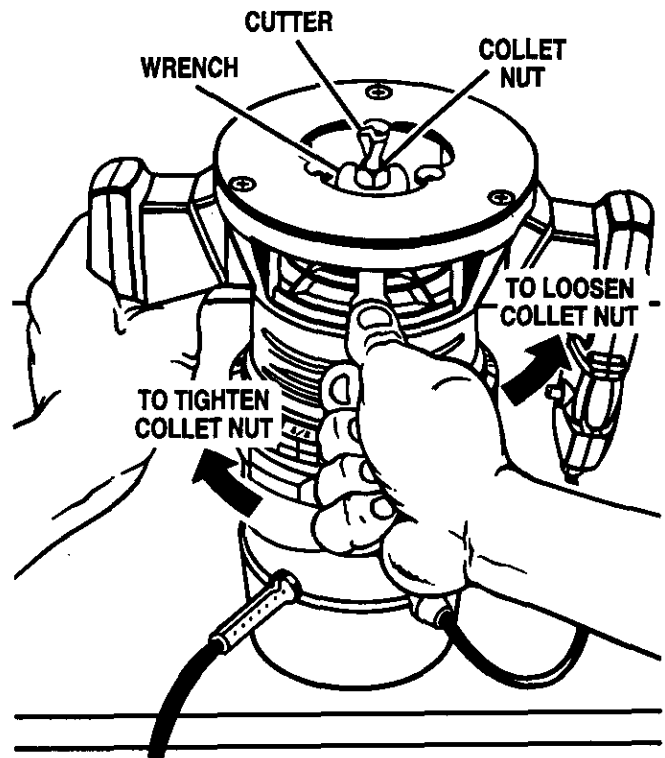

Fig. 3
■ Place your router upside down on table, then turn collet nut with wrench until lock mechanism interlocks. See Figure 3.
■ Remove cutters by turning collet nut counter-clockwise enough to allow cutter to slip easily from collet. See Figure 3. The collet is machined to precision tolerances to fit cutters with 1/4 in. diameter shanks.
■ Tighten the collet nut securely by turning clockwise with the wrench provided. See Figure 3. Push spindle lock in and slide into unlock position. Otherwise, the interlocking mechanism of the spindle lock will not let you turn your router on.